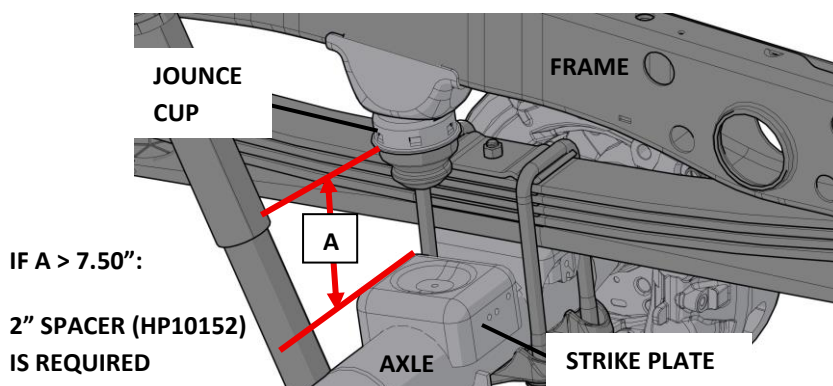

Figure 1. Diagram of GM 2500/3500 Rear Suspension
Note (AT4/Trail Boss): AT4/Trail Boss models may have an extension adapter (Figure 1, Right) on the strike plate. The extension adapter **must be removed** for the installation of the HP10585 kit.
2. "A" = The distance from the bottom of the metal jounce cup to the green line (Figure 1, Right) **PLUS 1"**.